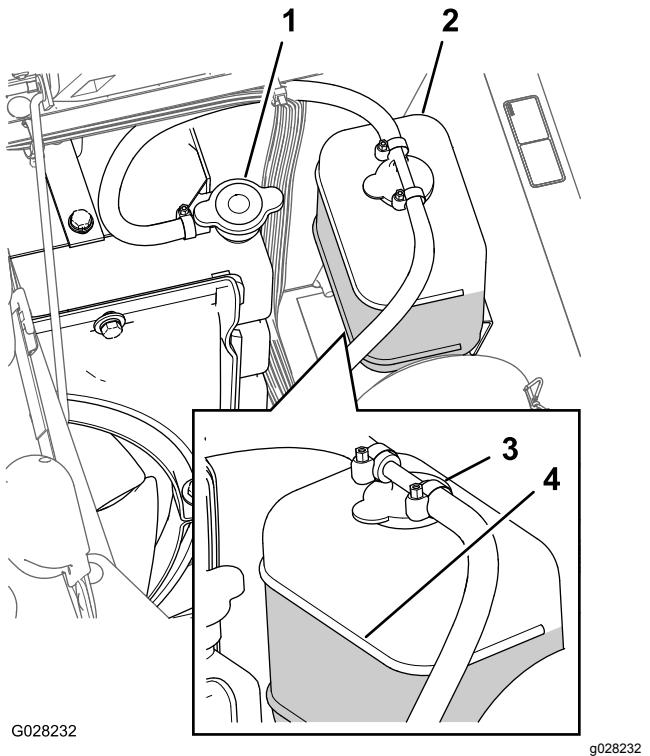

Figure 85
3. Carefully remove the radiator cap and the expansion-tank cap (Figure 85).
Note: The radiator should be filled to the top of the filler neck and the expansion tank filled to the Full mark on the tank (Figure 85).
5. If the coolant level is low, remove the expansion-tank cap and the radiator cap, and fill the expansion tank to the Full mark and the radiator to the top of the filler neck (Figure 85).
6. Install the radiator cap and the expansion-tank cap (Figure 85).
2. When the engine is cool, remove the radiator cap (Figure 85).
6. Remove the radiator cap (Figure 85).
8. Start the engine with the cap loosely on the radiator (Figure 85).
10. Once the coolant has warmed up, top off the coolant level to the sealing surface of the cap and tighten the cap (Figure 85).
11. Open the expansion-tank cap and fill the tank with coolant to the Cold level (Figure 85).